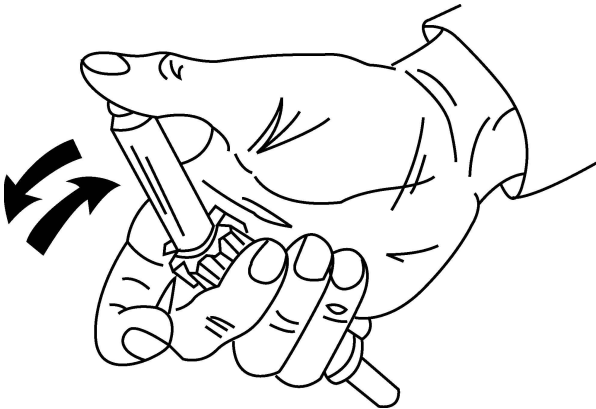

Figure 3-61. Lubricate Ejector
- (3) Place a few drops of CLP around the ejector to form a puddle.
- (4) Place a fired or dummy case under the lip of the extractor. Refer to Figure 3-61.
- (5) Using a rocking motion, press the case down against the ejector. The ejector is spring loaded and some resistance will be felt.
- (6) Press on the case until it stops against the bolt face.
- (7) Ease the pressure on the thumb slightly and press down again.
- (8) Repeat several times.
- (9) Replace the CLP frequently.
- (10) When the spring action of the ejector is smooth and strong, remove any excess CLP. Refer to Figure 3-61.